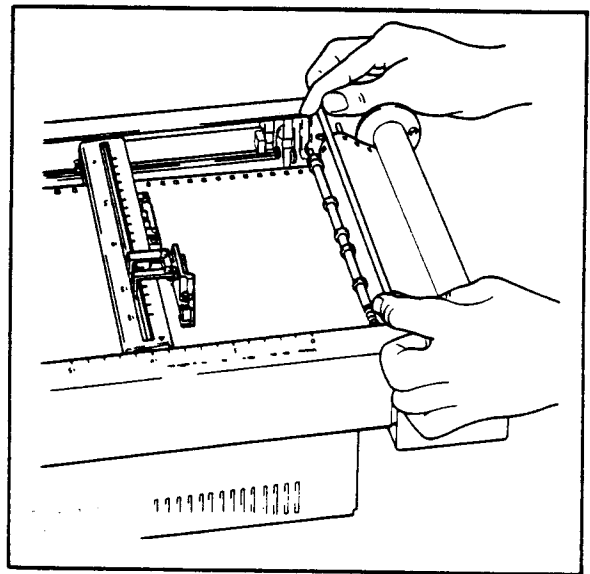

Figure 3-23.
- (1) Pull out paper from the chart paper compartment, hold up the paper bail and pass the paper under it as shown in Figure 3-23. To facilitate this procedure, you may fold up the initial 3 to 5 cm of paper.